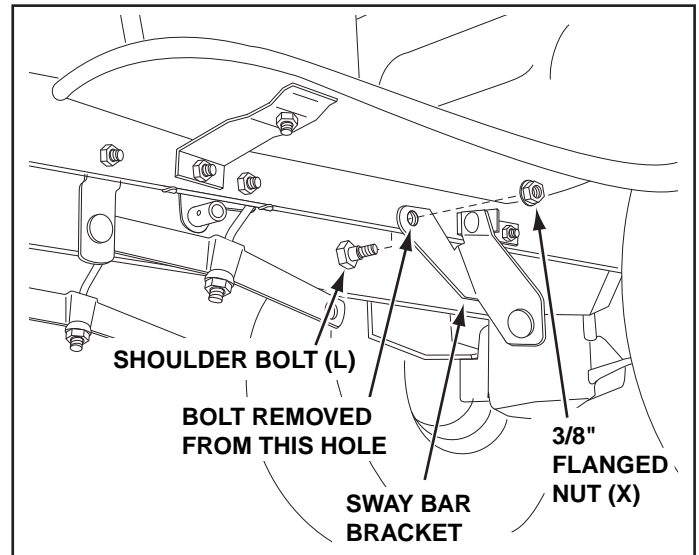

FIGURE 27 LEFT SIDE VIEW
STEP 27: (SEE FIGURE 27)
- Remove the bolt, washer and nut which fasten the sway bar bracket to the L.H. side of the tractor frame. Replace with a shoulder bolt (L) and a 3/8" flanged nut (X). Bolt goes on inside of frame.